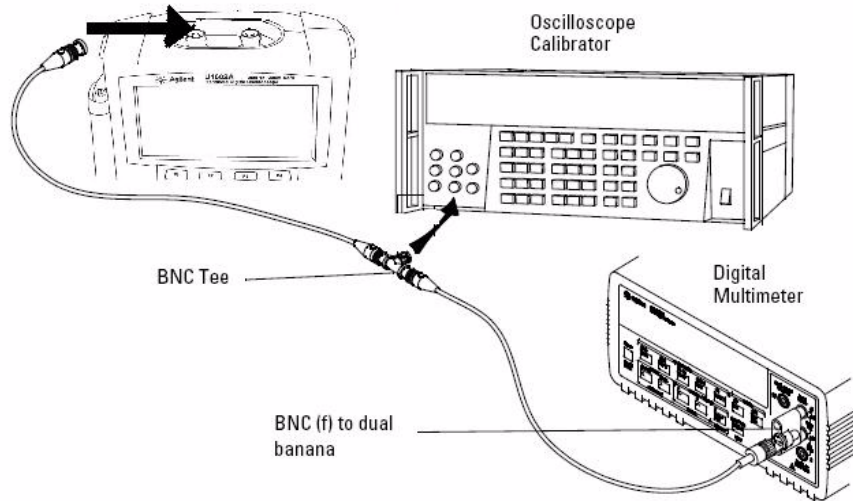

Figure 7-1 Test connection from calibrator to instrument and digital multimeter
- 3 Use the BNC tee and cables to connect the calibrator/power supply to the instrument and multimeter as shown in Figure 7-1.